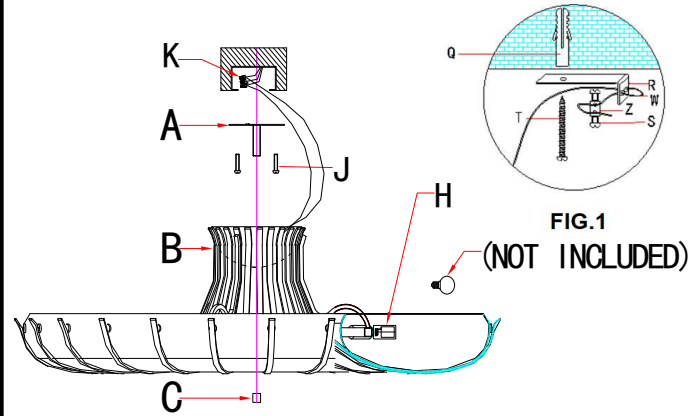

FIG.1
4. Remove mounting plate(A) from the lamp body(B) by unscrewing turning the Finial (C) .
5. Drill one hole on the ceiling and insert anchor(Q) into drilled hole. Then fix bracket(R) to the ceiling with strengthened screw (T) by screwing into anchor(Q). Remove the coupling(Z) from the aircraft wire(W) by loosening (2) screws(S). Pass the aircraft wire(R) through (2) holes on the bracket(R). Then pass the aircraft wire(W) through (2) holes on the coupling(Z) and fix with (2) screws(S) as FIG1 .or you can find more details on next page. Be sure to tighten two screws attached on the coupling(Z).